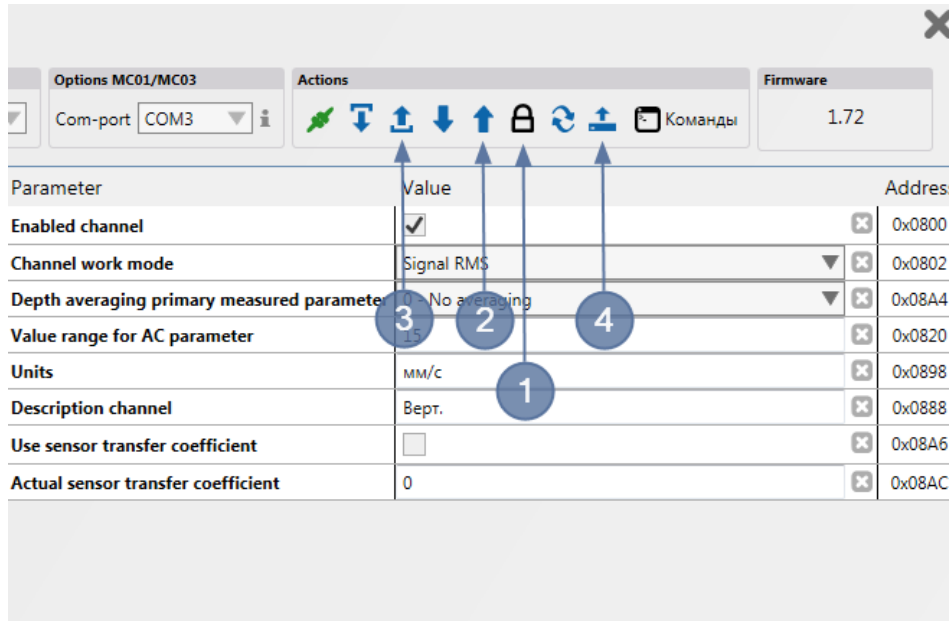

Figure 23 - Setting saving into module procedures
Before recording settings into module the program should be connected to module (Ref. Section 3.5 Module connection), and also in those modules with logic signaling block, it should be blocked. To block logic signaling of a module, press **Block logic signaling** button, thus setting it to position shown in Figure 33, item 1, therewith recording buttons (Figure 23, item 2 and 3) will become available.
To record all settings into module RAM press **Record all settings into module** button (Figure 23, item 2). To record settings into module RAM only for current selected parameter group press **Record settings into module** button (Figure 23, item 3). For values recorded into module RAM to be saved into module non-volatile memory and available after module reset, press **Save all parameters into module non-volatile memory** button (Figure 23, item 4). Module will reset.